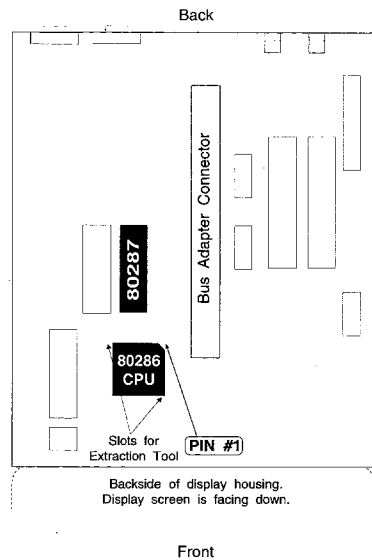

Figure 1. IBM PS/2 Model 25-286 System Board
**Note:** The position of pin 1 on the 80286 processor chip will determine **exactly** how the 486SLC2 Cached Processor Upgrade Card will be installed. The location of pin 1 shown in figure 1 is correct for the motherboards we have worked with in developing the card. It is possible that alternative motherboard designs or engineering levels exist and the location of pin 1 on your motherboard is definitive.
11. Insert the metal prongs of the IC chip removal tool in the space between the processor and its socket. Insert the prongs in the slots located diagonally opposite each other and 90 degrees either side of pin 1 (see figure 1). Gently squeeze the plastic handles until the tip near the metal prongs seats on the processor socket. Without
12. If you have an 80287 math co-processor installed, it **must** be removed. This device is incompatible with the processor on your new upgrade card. Locate the 80287 co-processor as shown in figure 1 and insert a small flat blade screwdriver under the end of the chip. Gently pry upwards; repeat for both ends. Once the pins have been sufficiently exposed, remove the co-processor with your fingers. (Save the 80287 co-processor in the event you need to temporarily return to the old configuration. The math co-processor should also be stored in the antistatic bag.)
12. If you have an 80287 co-processor installed, this must also be removed. Locate the 80287 co-processor as shown in figure 1 and insert a small flat-blade screwdriver under the end of the chip.